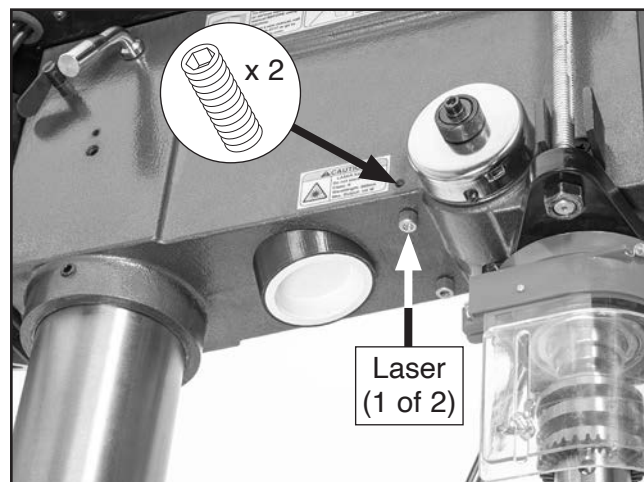

Figure 45. Laser module adjustment components.
7. Loosen (2) set screws shown in **Figure 45**, then adjust laser modules by hand, positioning them so crosshairs align with indentation you made in **Step 5**.